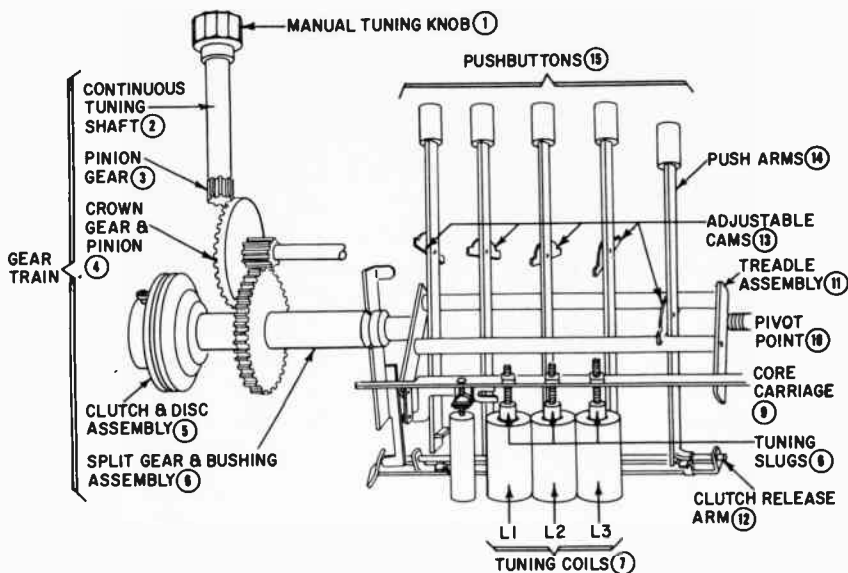
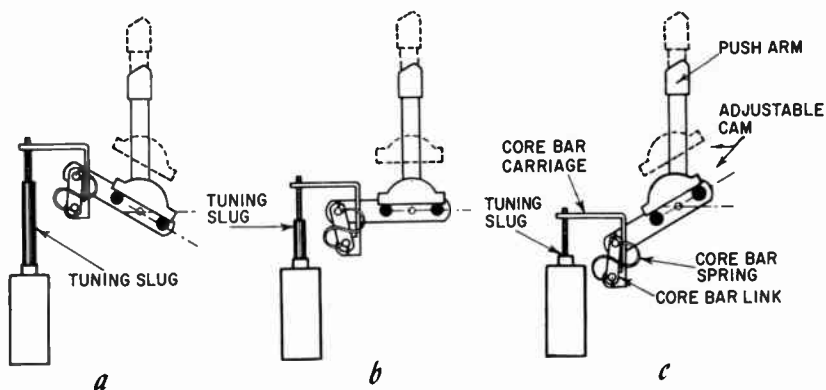

Fig. 603. Deluxe auto radio pushbutton tuning unit incorporating manual and search tuning systems.
Fig. 604. Three different angles of cam action in pushbutton tuning.
A typical pushbutton tuning unit is shown in Fig. 603. The unit illustrated is the pushbutton tuning section of a deluxe tuner that normally includes manual and search tuning controls as
When a pushbutton (15) is pressed, the push arm operates the clutch release arm (12) to disengage the clutch and disc assembly (5). This in turn isolates the split gear and bushing assembly (6) and the entire gear train to the manual tuning knob (1). This prevents the manual tuning system from rotating when a pushbutton is operated. As the push arm moves in, the adjustable cam, which is locked at this time, pushes against the treadle assembly, which rotates on its pivot point (10). The treadle assembly stops when it assumes the angle determined by the locked cam. Through this action, the tuning slugs (8) that are ganged to the core carriage (9) are simultaneously positioned in their associated tuning coils to select the desired station. The action on the ganged tuning slugs of cams adjusted at three different angles is illustrated in Fig. 604. When the pushbutton is released, the clutch release arm (12, Fig. 603) engages the clutch and disc assembly, which again ties the continuous tuning gear train to the treadle assembly. This action locks the tuner on station.
To preset pushbuttons to the desired stations, the radio is first tuned manually to the first station to set the treadle assembly (11, Fig. 603) to the angle that corresponds to the desired station. The pushbutton is then unlocked (by pulling it out or by unscrewing it several turns) to release the adjustable cam on the pusharm. When the pushbutton is depressed, or depressed and screwed in, the adjustable cam is locked in the angular position determined by the setting of the treadle assembly.